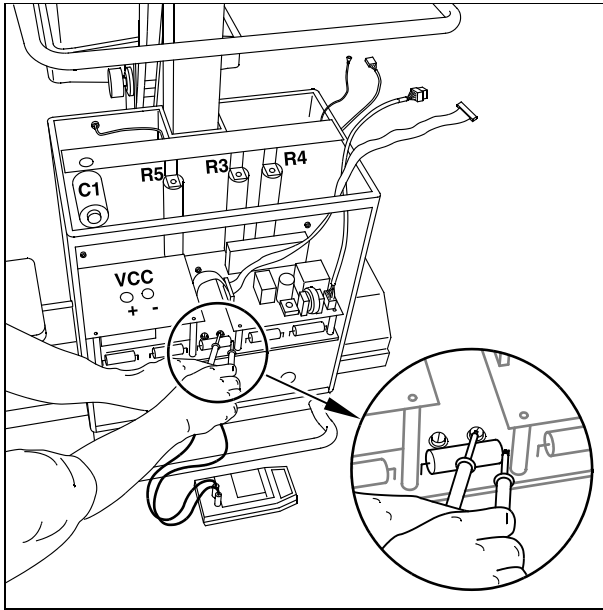

Fig. 2:
- ⇒ Always measure the actual voltage present with the DVM at test points -VCC and + VCC on the D 960 inverter board or (more accessible) on the D 970 capacitor board at the + connection point of capacitor C3 and on the right side of fuse F3 (Fig. 2 / p. 9).